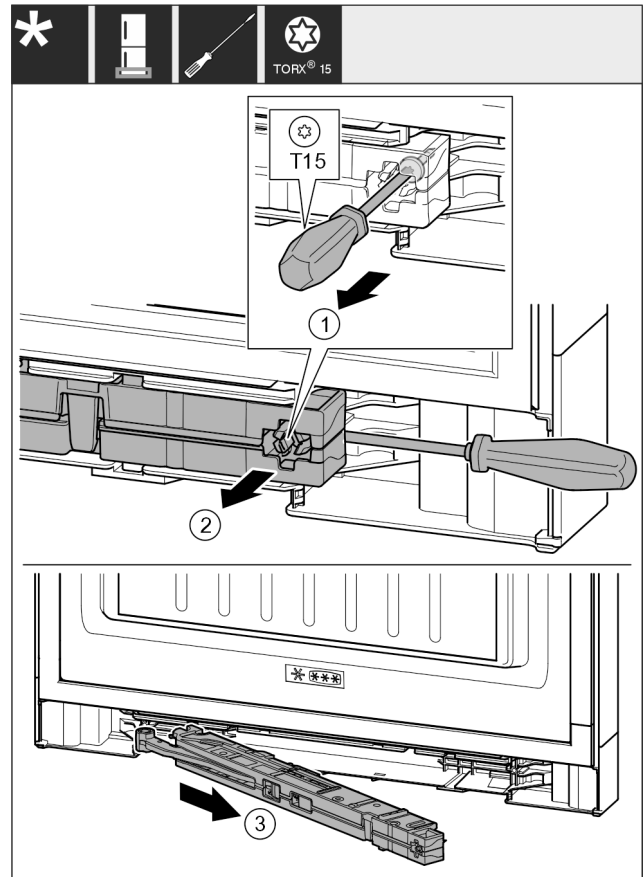

Fig. 16
- ▶ Loosen the screw Fig. 16 (1) on the closing damper unit with a 14 mm (9/16 in) screwdriver.
- ▶ Use the screwdriver to lift out the closing damper unit Fig. 16 (2) on the handle side.
- ▶ Pull out the closing damper unit Fig. 16 (3).